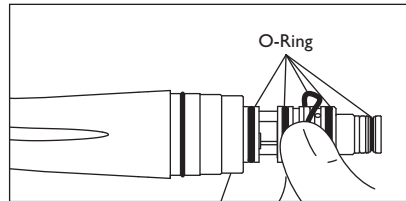

Fig. 12
- 2) Gently remove each O-Ring with your thumb. (Fig. 12)